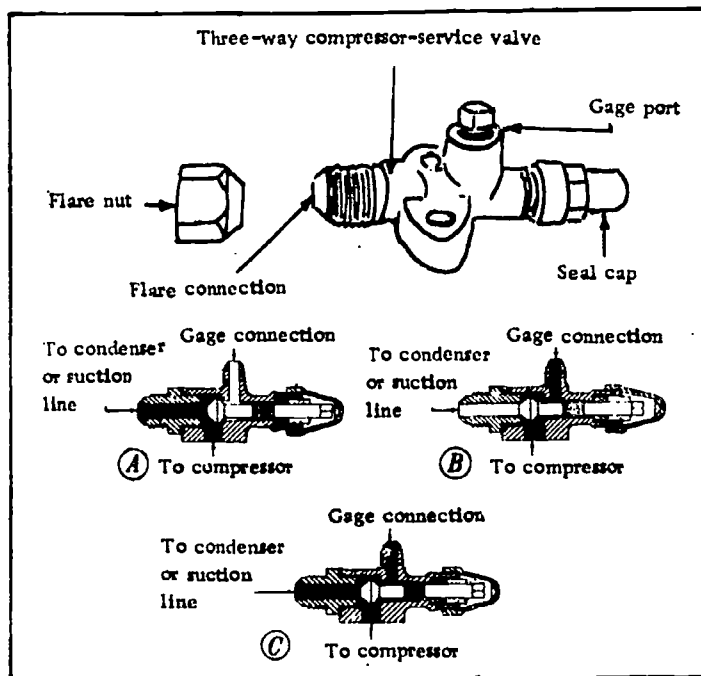

Fig 2-21. Three-way valve and its positions.
- (2) Three-way valve (fig 2-21). This valve is usually installed for use as a compressor service valve. It has a service port with plug, a suction or discharge port, and a flanged port with gasket. The flanged port with gasket is bolted to the compressor. Then a suction or discharge line is connected to the suction or discharge port and the plug is installed in the service port. To install gages, vacuum pump or charging station, simply backseat the valve (stem screwed all the way out (fig 2-21 (A))), remove the plug, and attach the instrument. To remove or open the compressor, the valve stem is turned until it is closed, sealing off the rest of the system (fig 2-21 (B)). To read pressures, charge, or purge the system, the stem is turned to its middle position (fig 2-21 (C)).